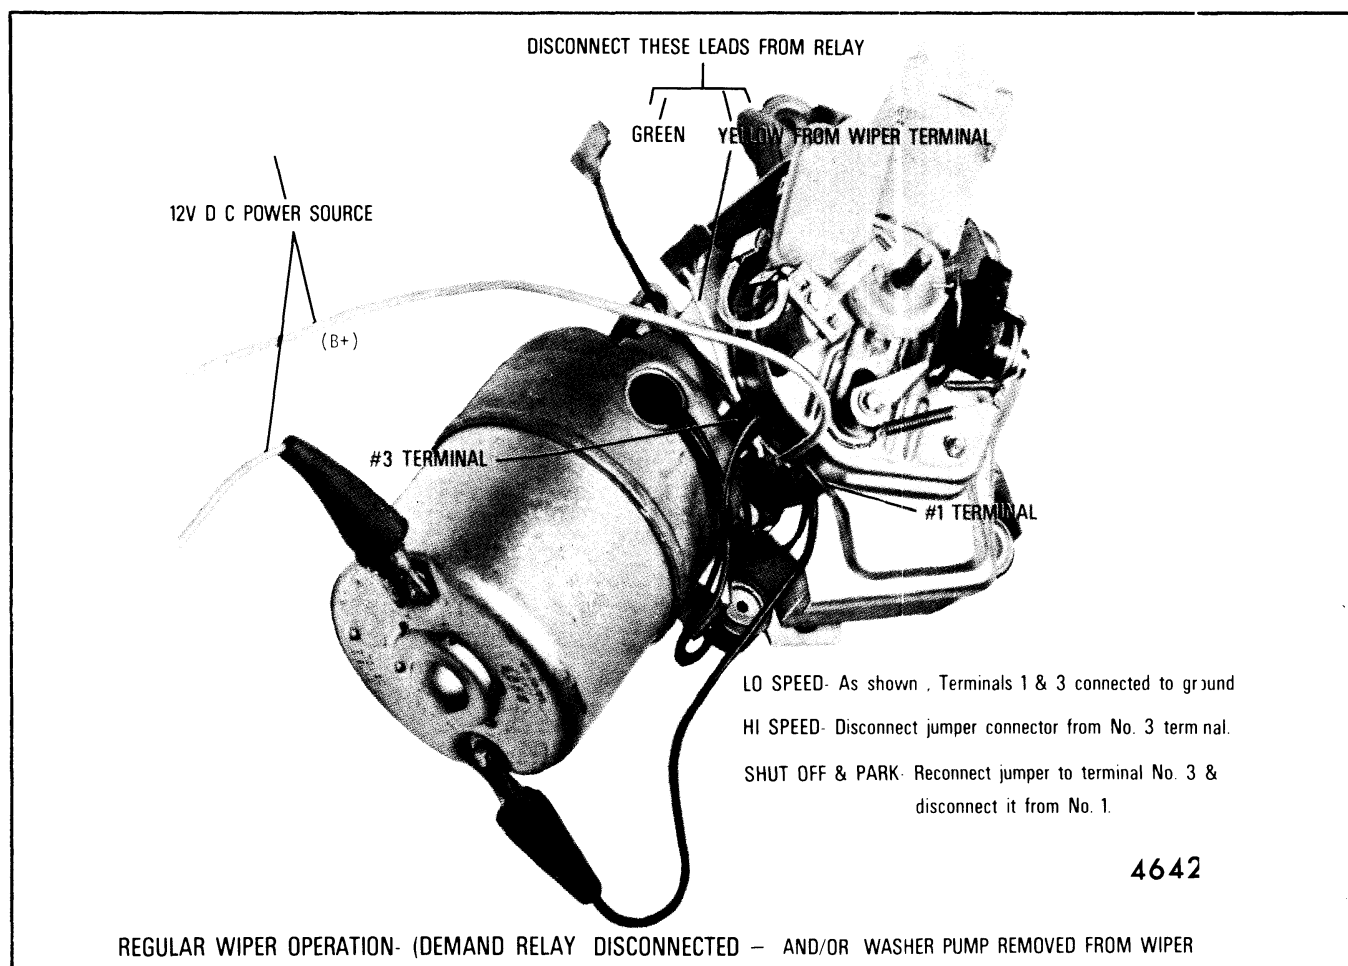

Fig. 2-80-Wiper Operation
**NOTE:** To duplicate the various types of operation independently of the car wiring and wiper control and shift lever switches refer to Figures 2-80 and 2-81.